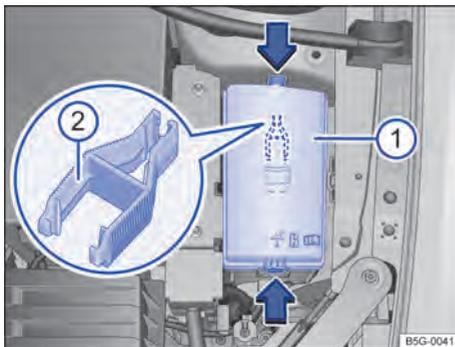

Fig. 180 In the engine compartment: fuse box cover  with plastic claw .
- Press the retainers in the direction of the arrow → Fig. 180  to release the fuse box cover.
On the inside of the engine compartment fuse box cover there may be a pair of plastic tweezers → Fig. 180  to extract the fuses.